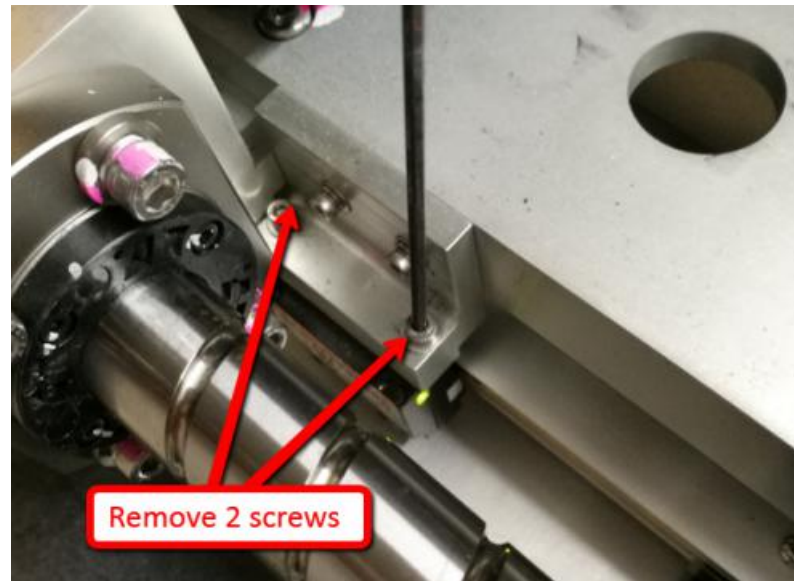

Figure 12
14. Loosen 2 screws by using camera tool and remove X-Axis Encoder as shown in Figure 12.